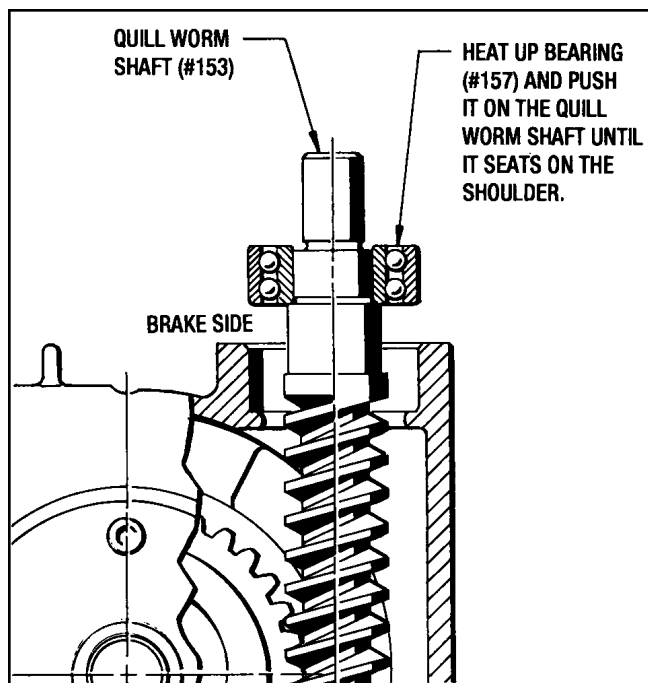

Figure 9.6 - Installing Bearing (#157) On Quill Worm Shaft
2. Slide the worm shaft through the housing until the bearing shoulder of the worm shaft is visible past the housing. Heat the Bearing (#157) and slide it onto the shaft, making sure it seats against the bearing shoulder. (See Figure 9.6)